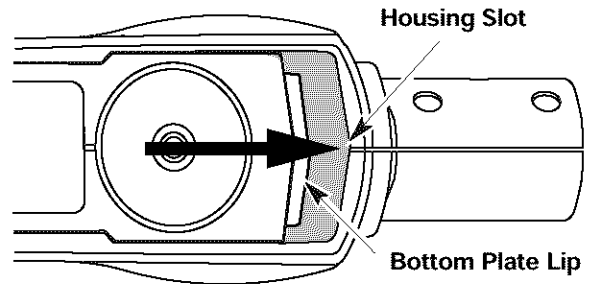

Fig. 14
- Install the bottom plate lip into the slot of the housing (Fig. 14). Install the two (2) bottom plate screws. Torque screws to **10-15 in•lbs.**